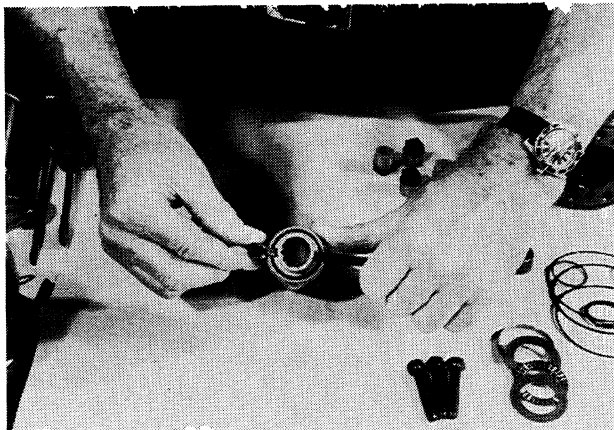

Figure 18
3. Insert the special tool into the centering spring slot in the control spool and sleeve and insert the centering springs in the slot of the tool, Figure 18. Using finger pressure, compress the ends of the springs opposite the special holding tool and slide the springs into the control spool and sleeve as the special tool is pushed out.